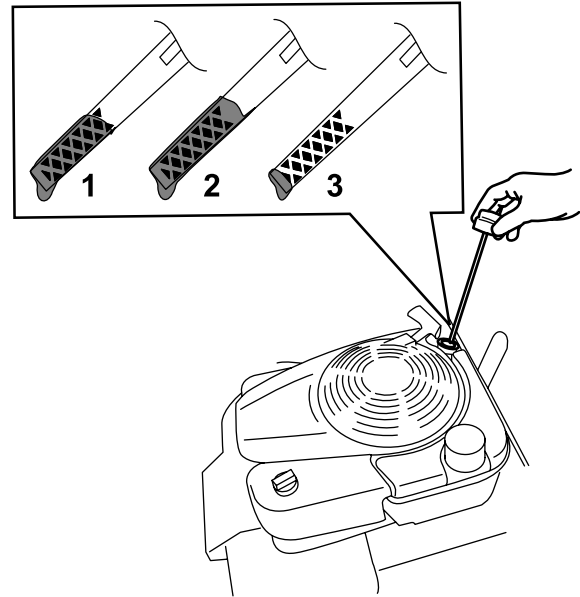

Figure 13
2. Remove the dipstick by rotating the cap counterclockwise and pulling it out (Figure 13).
5. Read the oil level on the dipstick (Figure 13).
- If the oil level on the dipstick is too low (Figure 13), carefully pour a small amount of SAE 30 or SAE 10W-30 detergent oil into the oil-fill tube, wait 3 minutes, and repeat steps 3 through 5 until the oil on the dipstick is at the correct level. For the oil type, refer to Changing the Engine Oil (page 20).
- If the oil level on the dipstick is too high (Figure 13), drain the excess oil until the oil on the dipstick is at the correct level; refer to Changing the Engine Oil (page 20).